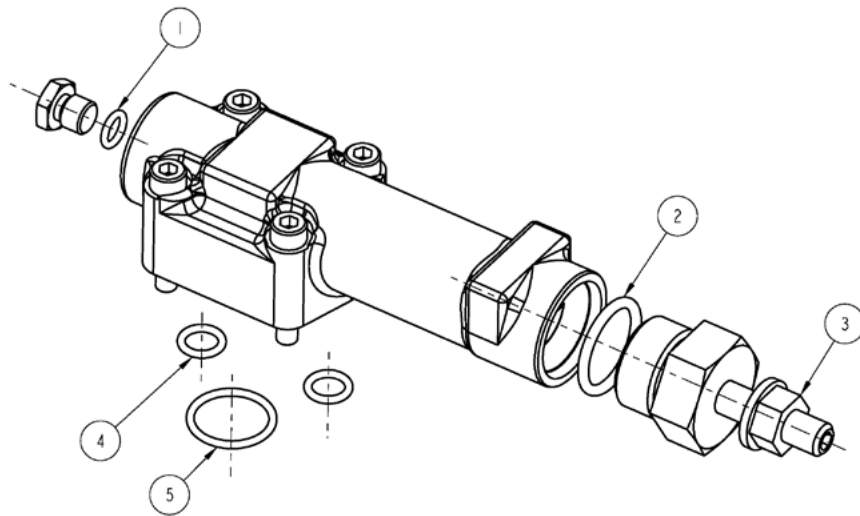

Figure 19
1. Remove the four screws that fix the compensator housing to the end cap (Figure 19 ②).
2. Remove the compensator and take out the three O-rings (Figure 19 ③④).
7. Install the three O-rings (Figure 19 ③④). The one in the middle is larger, and the ones at both ends are smaller.
8. Fasten the compensator housing to the end cover with four screws (Figure 19 ②), and tighten them with a torque of 7.4 - 9 Nm. When tightening, use a cross - crisscross pattern and re - tighten the first screw.